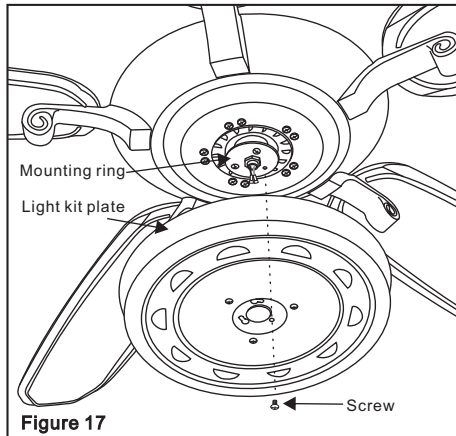

Figure 17
1. Remove 1 of 3 screws from the mounting ring and loosen the other 2 screws (Do not remove). (Figure 17)
2. Place key holes on the light kit plate over the 2 screws previously loosened from the mounting ring, turn light kit plate until it locks in place at the narrow section of the key holes. Secure by tightening 2 screws previously loosened and the one previously removed. (Figure 17)